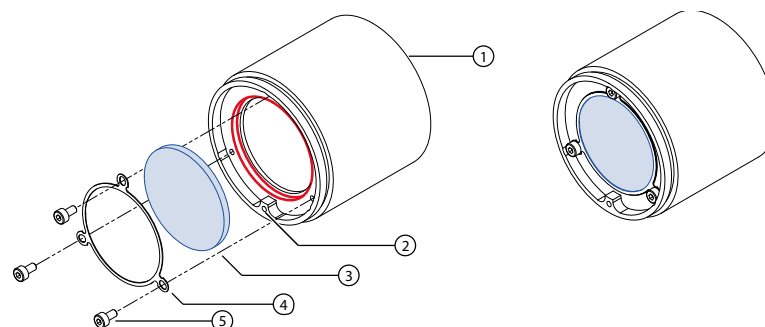

Figure 75: Changing the filter in the M42-Mount adapter
- See Figure 75 (blue = filter, red = filter recess).